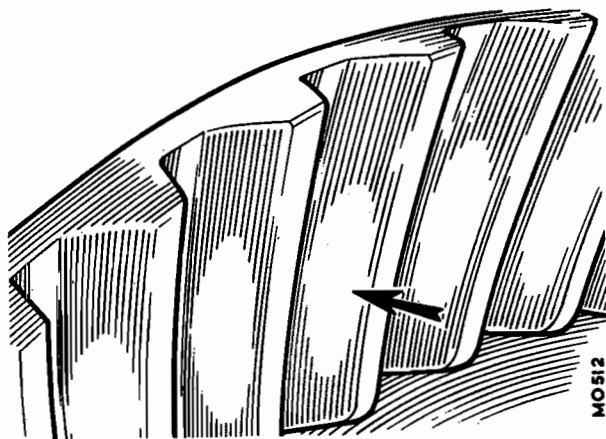

FIG. 7 CORRECT TOOTH CONTACT IMPRESSION
11. Apply engineers blue to spiral bevel pinion teeth, turn the pinion and compare the tooth contact impression with Figs. 7 and 8.
13. Fit transfer drive bearing outer race, driven gear (59), bearings (58), differential assembly shims and ring nut.
14. Fit all bearing caps and bridge piece tool. Set differential ring nut to the mark previously recorded, fit locking tab (55) and setscrew.